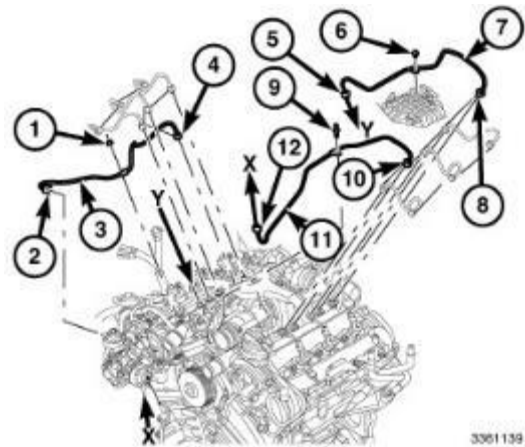

Figure 33 – Right Side Fuel Tubes
19. Remove the nut (1) securing the right high-pressure fuel tube (3) to cylinder head cover (Figure 33).
20. Remove the union nuts (2, 4) and the right high-pressure fuel tube (3), discard the fuel tube (Figure 33).
21. Remove the bolt (6) securing the high-pressure crossover fuel tube (7) to top of intake manifold (Figure 33).
22. Loosen the union nuts (5, 8) and remove the high-pressure crossover fuel tube (7), discard the fuel tube (Figure 33).
23. Remove the bolt (9) securing the left side fuel tube (11) to EGR air flow control valve (Figure 33).
24. Loosen the union nuts (10, 12) and remove the left high pressure fuel tube (11), discard the fuel tube (Figure 33).